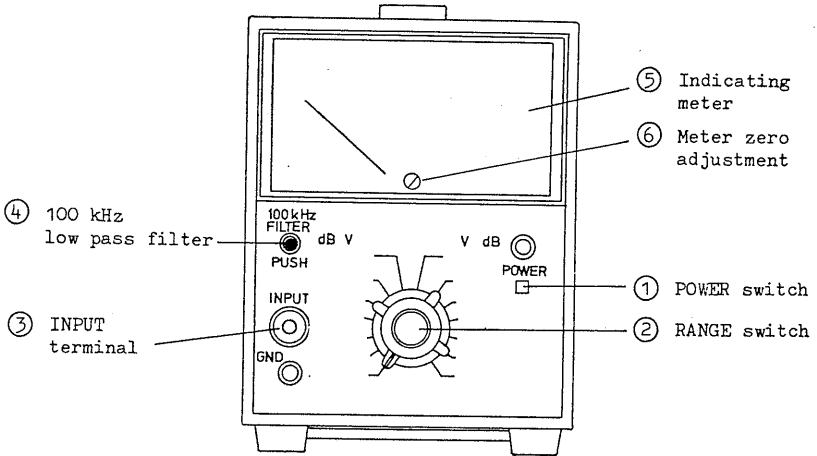

Fig. 3-1
- 2) Check that the meter pointer is indicating the zero scale position. If it has been shifted, align it accurately with the zero position by means of the meter zero adjustment ⑥. (See Fig. 3-1.) (Before adjusting the mechanical zero, ensure that the meter pointer has been settled near the zero position as a period of 5 minutes of thereabove has elapsed after turning-OFF the POWER switch.)
- 7) For measurement at a high sensitivity, connect the 100-kHz low pass filter (-3 dB at 100 kHz) by depressing pushbutton (4) of Fig. 3-1, in order that the input signal can be measured with low noise. This feature is especially advantageous when the signal source impedance is high.